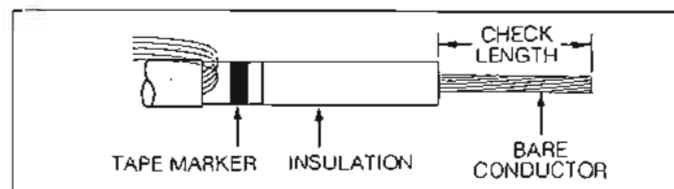

Figure 5.
- Remove insulation exposing bare conductor to length specified in Table 2. (Refer to Figure 5.)